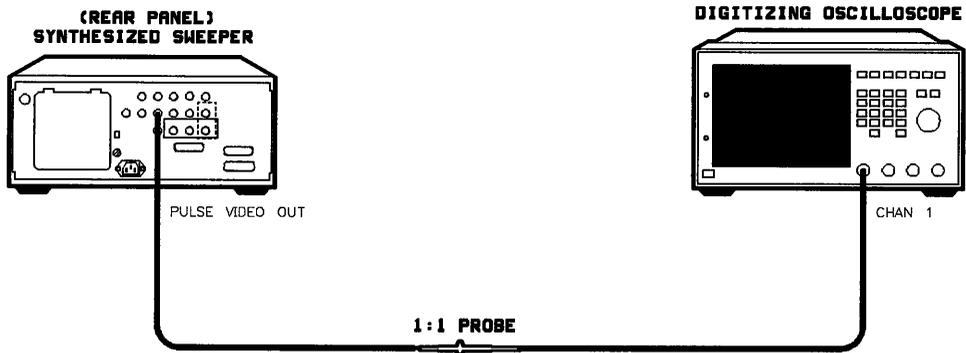

Figure 2-31. Pulse Accuracy Test Setup
1. Connect the equipment as shown in Figure 2-31. Preset all instruments and let them warm up for at least one hour.